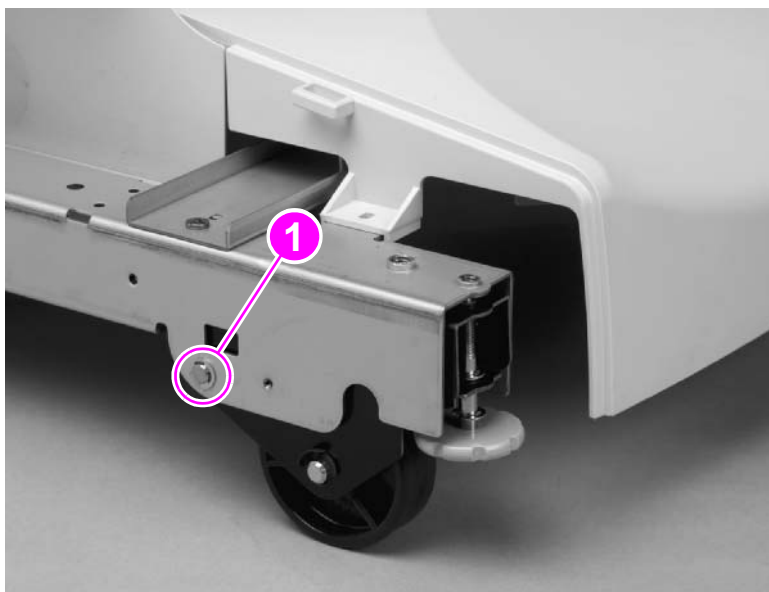

Figure 93.
For safety, first remove the stapling unit (see page 104), and then gently lay the multifunction finisher on its side. (Figure 93 shows the multifunction finisher in an upright position.)
- 2 Remove the e-clip (figure 93, callout 1) from the metal pin.